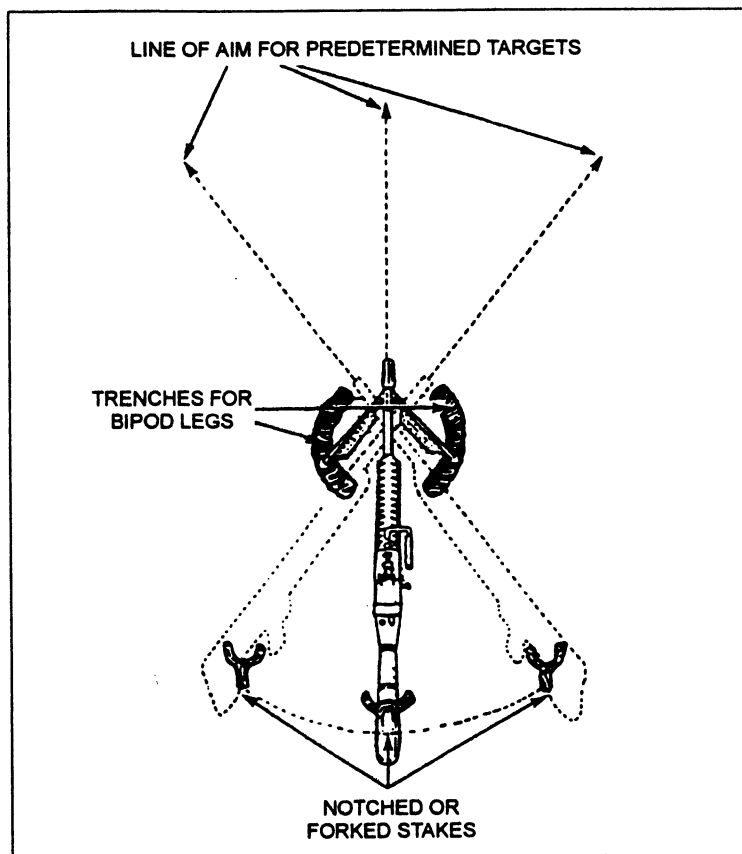

Fig 4-32. Notched staked method.
e. Notched stake method. If, for some reason, the bipod mount is being used instead of the tripod, targets can be made predetermined by the use of notched or forked stakes. The stakes are driven into the ground so the butt stock rests in the notches when the gun is laid to hit the target. Shallow trenches or grooves are dug for the bipod feet (see fig 4-32).